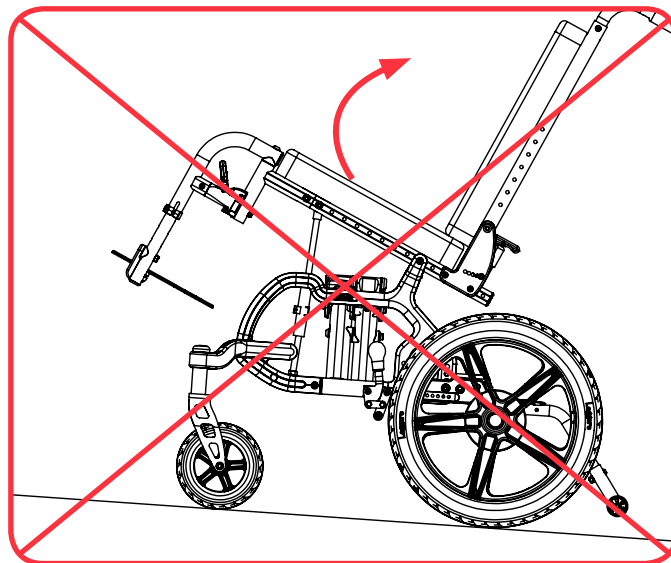

Figure 38
2. If the wheelchair is on an inclined slope, do not attempt to adjust the tilt angle. Tilting the seat will decrease the rearward stability. Reference Figure 38. Do not use the wheelchair on any slope greater than 5°.